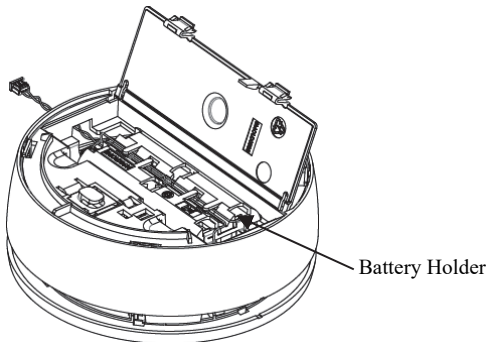

Figure 8
4. Open the battery compartment cover (see Figure 8).